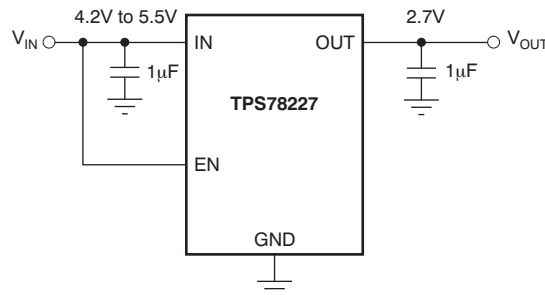

Figure 16. Circuit Showing EN Tied High when Shutdown Capability is Not Required
The enable pin (EN) is active high and is compatible with standard and low-voltage CMOS levels. When shutdown capability is not required, EN should be connected to the IN pin, as shown in Figure 16. The TPS782xx series, with internal active output pulldown circuitry, discharges the output to within 5%  $V_{OUT}$  with a time ( $t$ ) shown in Equation 1: